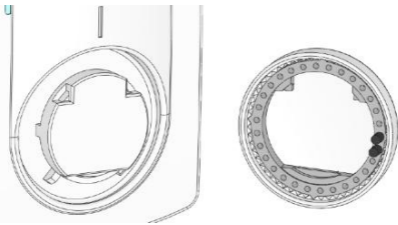

Fig. 1
4. Remove the internal wheel from the button. (Figure 1)